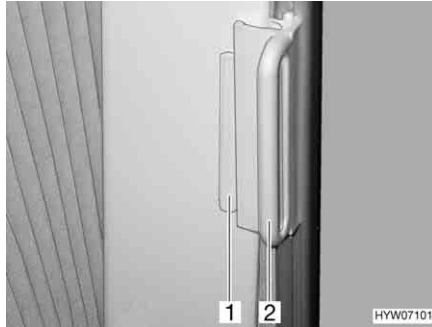

Fig. 85 Roman shade, driver's cabin window
- Grasp the handle (Fig. 85,2) of the Roman shades and draw carefully until the magnetic catch keeps the Roman shades closed.
- Push the handle (Fig. 85,2) onto the cap (Fig. 85,1). The Roman shade is secured.